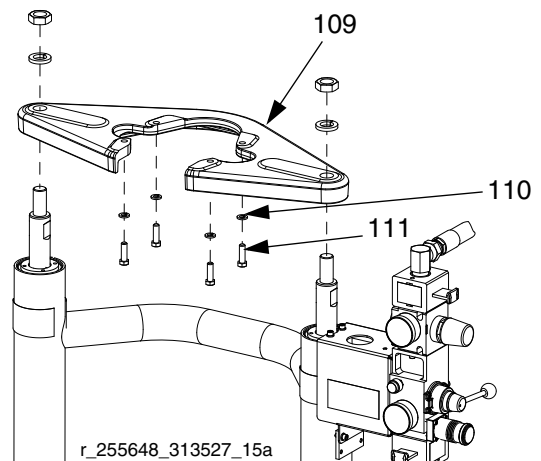

FIG. 27: NXT on D60 with Ram
- b. *For NXT with smaller platen:* If the motor was removed, tighten set screws (111) and washers (110) on mounting bracket (109). See FIG. 27 on page 27.
1. Using a secure hoist, attach motor to mounting plate (109) with screws (111) and washers (110). See FIG. 27 on page 27.